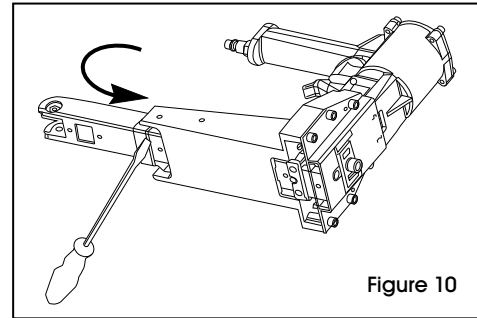

Figure 10
3. Clear the jam and reinsert the magazine. Pry jam release shut. (See Figure 10)